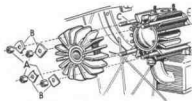

Fig. W6. Head off with piston at T.d.c.
Remove the ignition lead and sparking plug, undo the four cylinder head retaining nuts (A, Fig. W6) and remove the saddle washers (B). The cylinder head can then be lifted clear of the barrel. Rotate the engine until the piston is at the top of its stroke and using a suitable